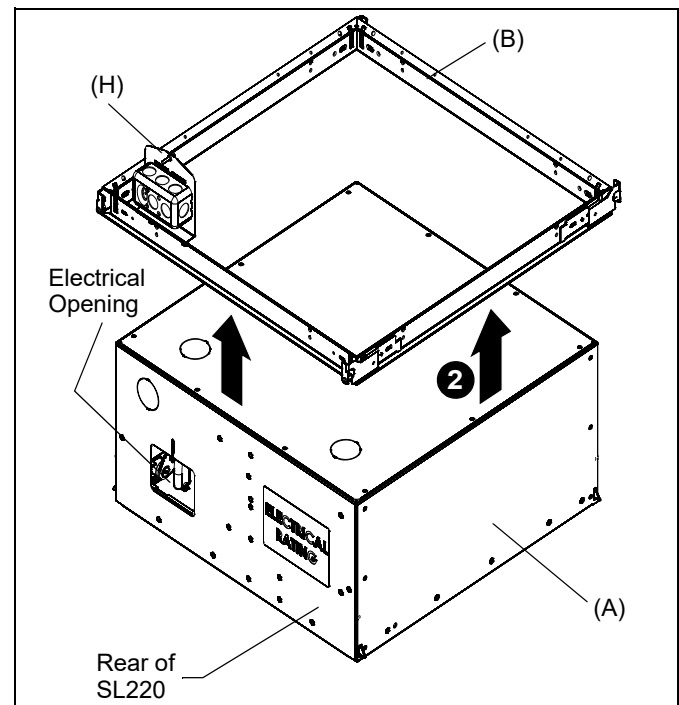
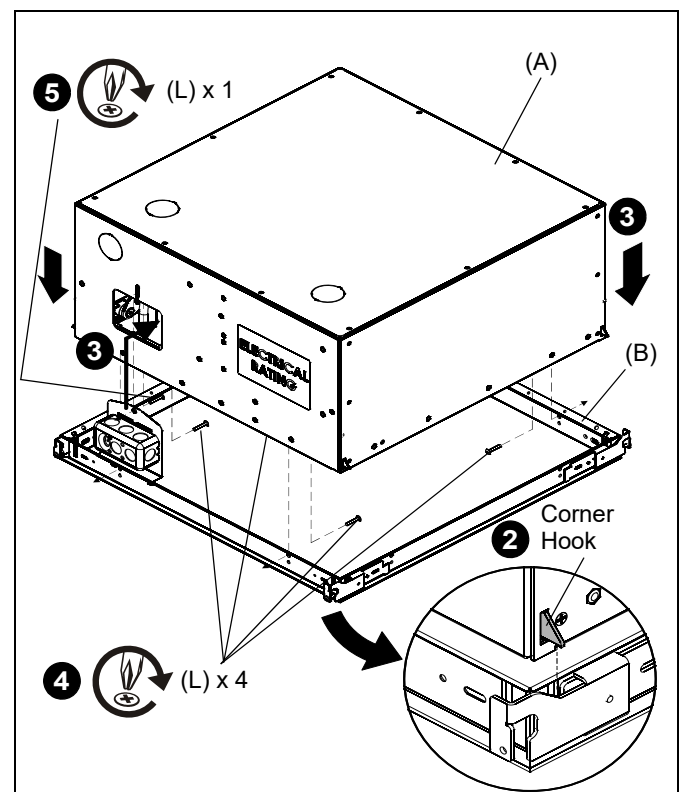

Figure 16
Figure 17
- Orient SL220 so that the rear of the SL220 (with the electrical opening) lines up with the outlet box attachment plate (H) on the SL220 frame. (See Figure 16)
- Lift SL220 (A) into place through the SL220 frame (B). (See Figure 16) Ensure that there are four audible clicks---each corner hook "clicking" into place onto the frame. (See Figure 17)
- Lower onto SL220 frame, carefully lining up outlet box attached to SL220 frame, with opening at rear of SL220. (See Figure 17)
- Secure the SL220 (A) to the SL220 frame (B) using four 8-32 x 1" Phillips head screws (L), two in the front and two in the back of the SL220. (See Figure 17)
- Secure the outlet box attachment plate (H) to the SL220 using one 8-32 x 1" Phillips head screw (L). (See Figure 17)